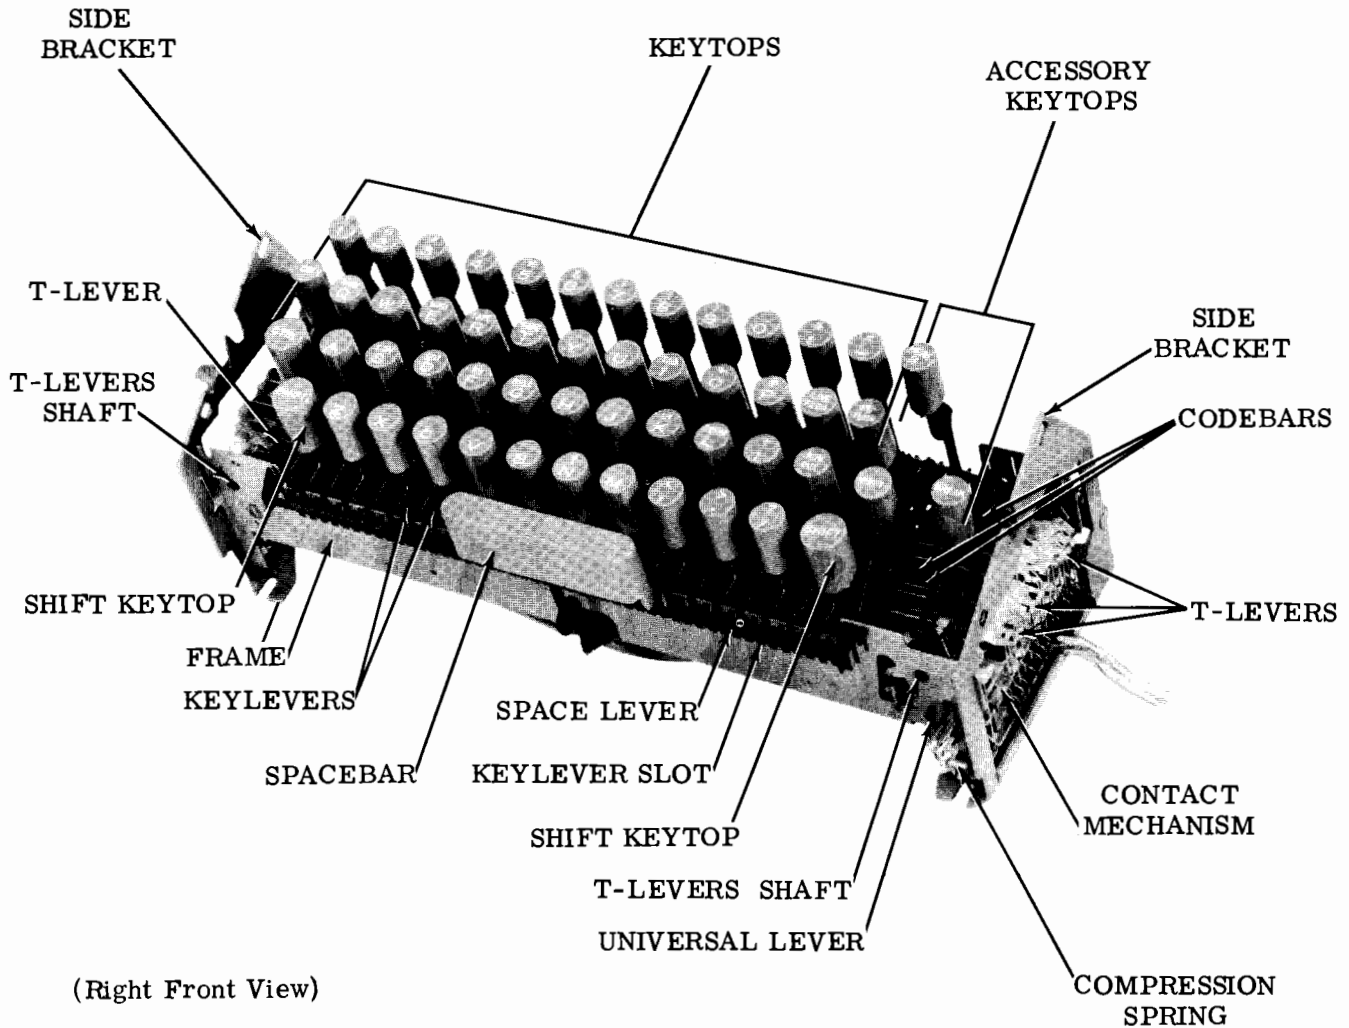

Figure 3 - Keyboard (Cover Removed)
1.04 References to left, right, front, rear, etc, consider the keyboard to be viewed from a position where the spacebar (Figure 3) faces up and the contact mechanism is located to the viewer's right.